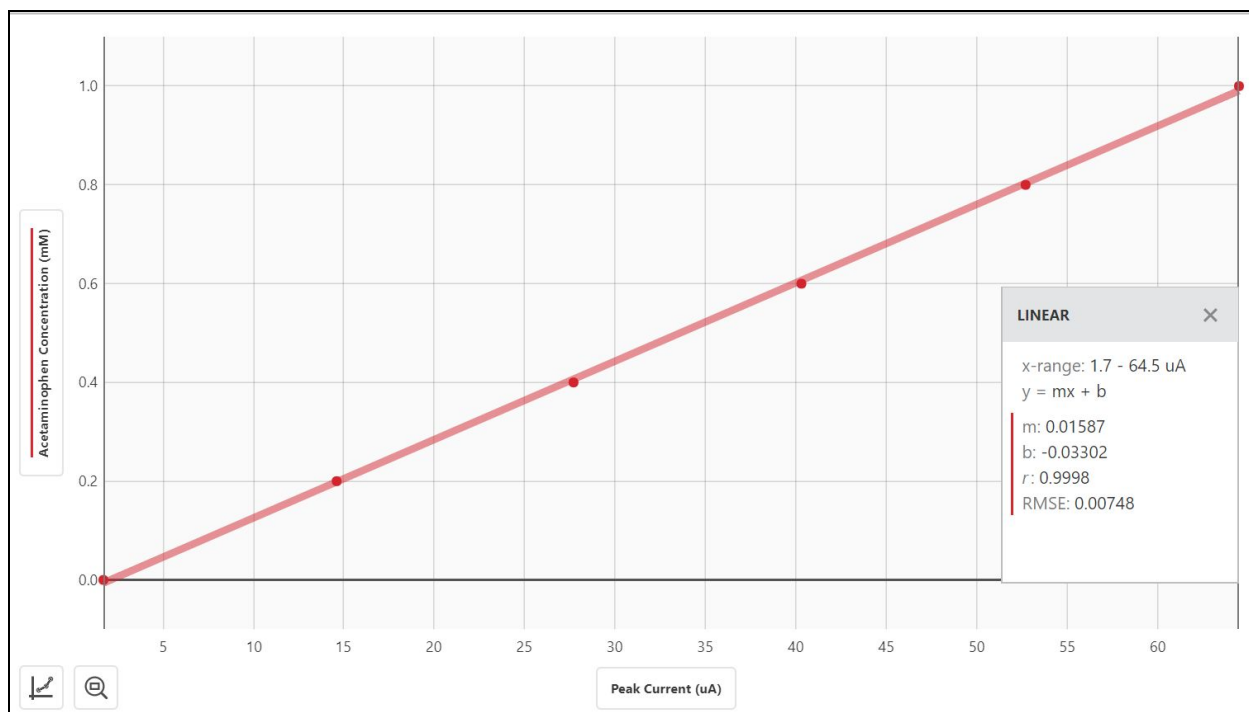

Figure 3 Calibration curve of acetaminophen standards
1. See Figure 3.
2. From Figure 3, the calibration curve is  $y = 0.01587x + (-0.033)$